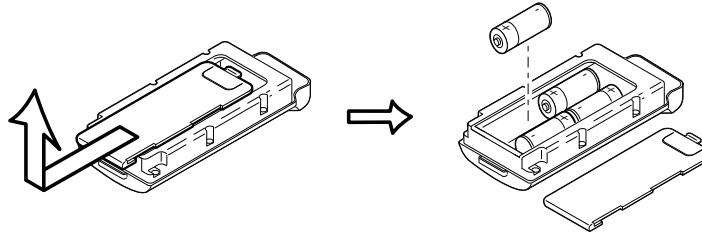

Figure 15: Remove Cover and Insert AA Batteries
To assemble the AA battery shell to the GR-5 (Figure 15):
2. Insert four AA batteries as shown on the inside of the shell (and in Figure 15 below).